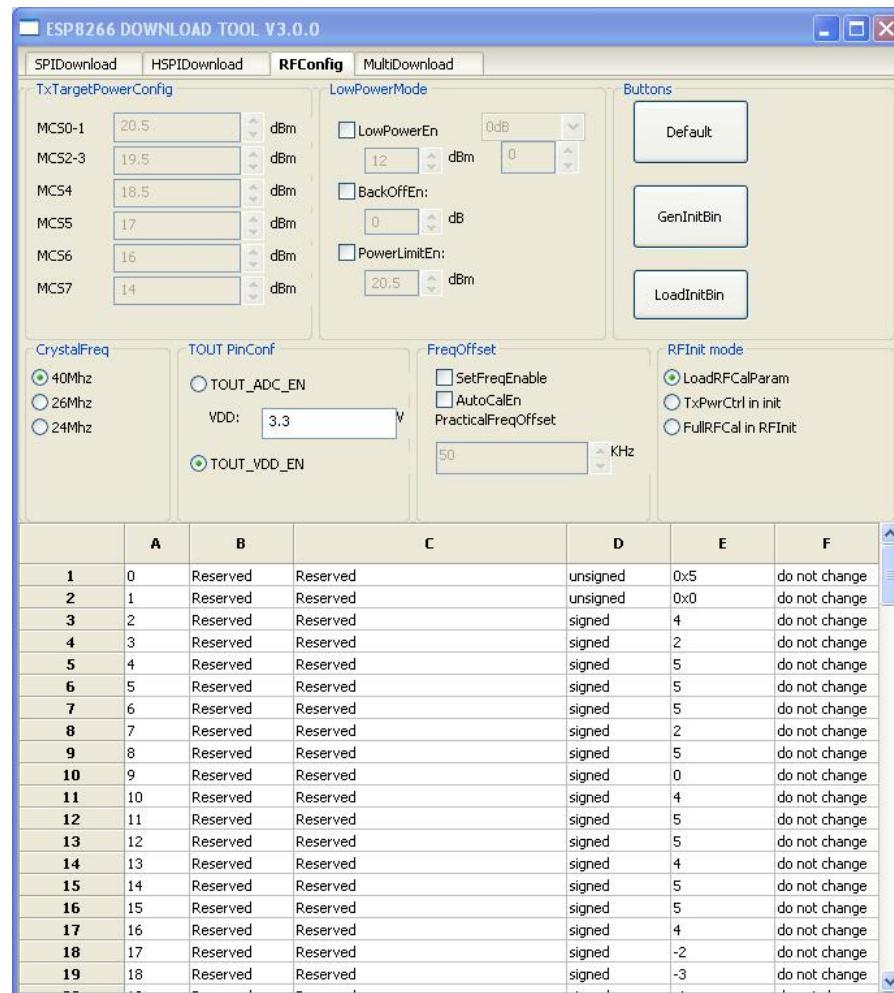

Figure 6-2. ESP8266 DOWNLOAD TOOL - RF InitConfig
*RF InitConfig* options are listed in the upper part in Figure 6-2. Please refer to Table 6-3 for configuration description.
**RF InitConfig** parameters are listed in the lower part of Figure 6-2. Parameter description is shown in Table 6-4.